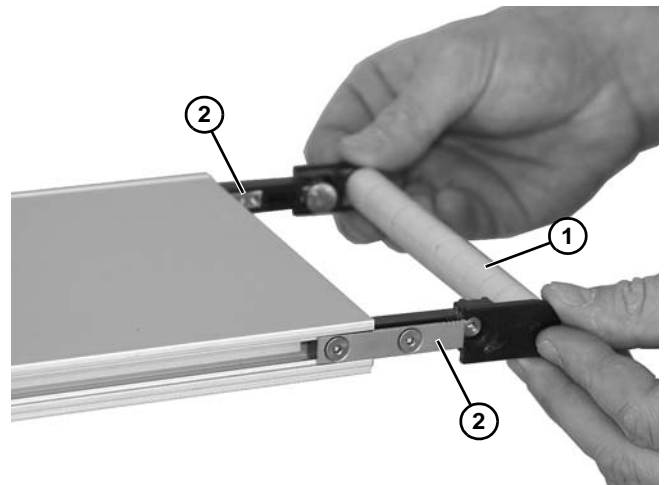

Figure 46
2. Assemble the idler spindle bearings (**Figure 46, item 1**) onto shaft onto each tail plate as shown and raise idler spindle assembly T-bars (**Figure 46, item 2**) to the conveyor frame.